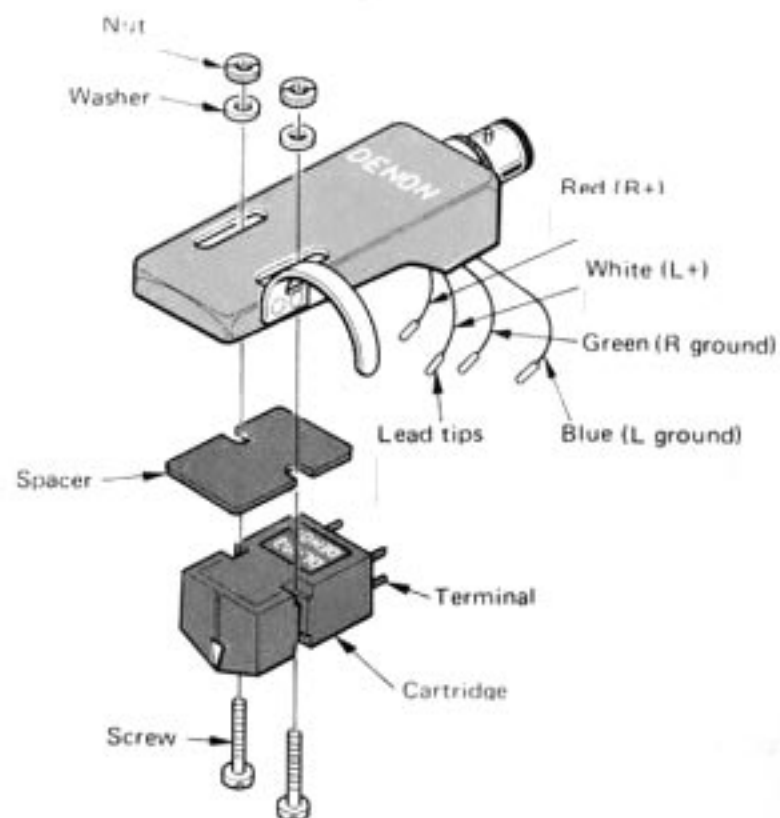

Fig. 3 Mounting the Cartridge in the Head Shell
Fig. 3 shows how it is mounted. Almost any cartridge on the market can be mounted on this shell, but the way of fixing may vary with a particular cartridge, so follow carefully the mounting instructions accompanying your cartridge.
- 3) As shown in Fig. 3 the lead wires are colour-coded; red for right channel (hot), green for right ground, white for left channel (hot) and blue for left ground. Carry out connections correctly, paying enough attention to the con-